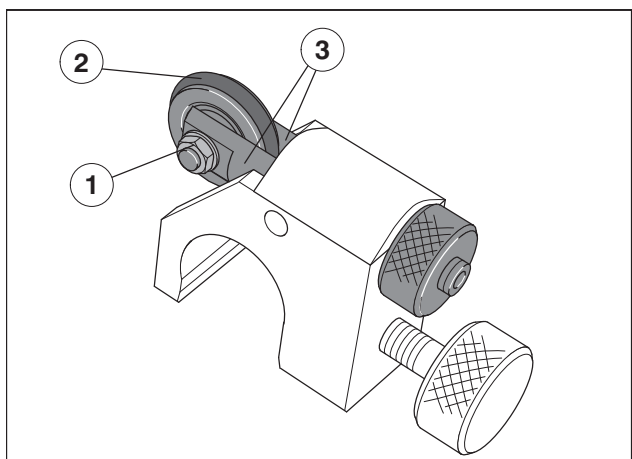

Fig. 56 Changing the O-seal
In case of wear, you must change the O-seal (Fig. 56/2) on the roller. Changing the O-seal is possible only at the removed small size forwarding roller.
2. Loosen the nut (Fig. 56/1) at the roll shaft using a fork wrench and remove the shaft.
4. Insert the roller between the holders (Fig. 56/3) of the roller.